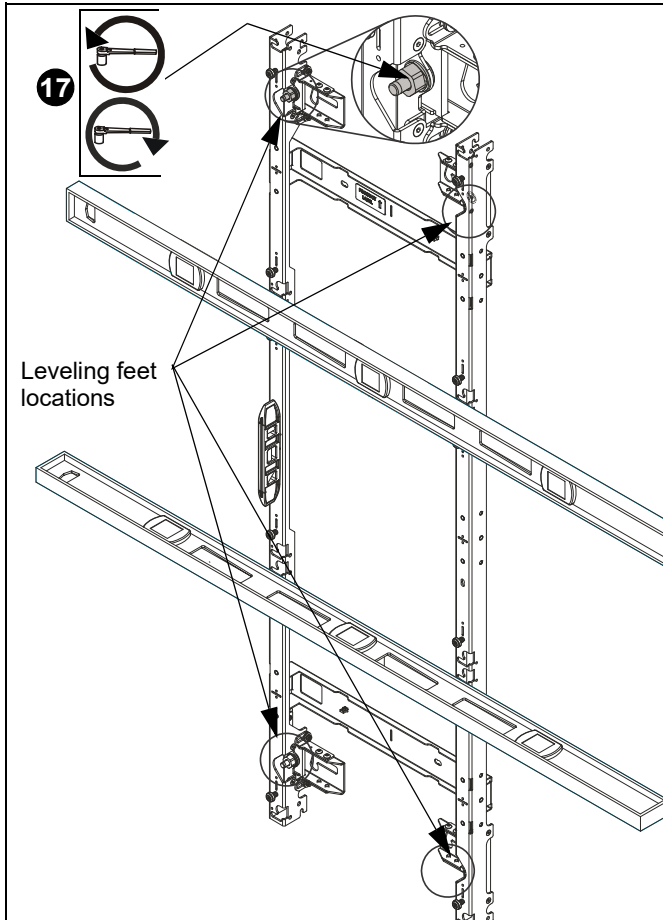

Figure 11
- Using a level on the front of the mount in various places, use a 3/4" or 19mm deep-well socket and square drive ratcheting wrench to adjust the leveling feet on the mount until the mount is plumb or even with something that is being used as a reference point. (See Figure 11)